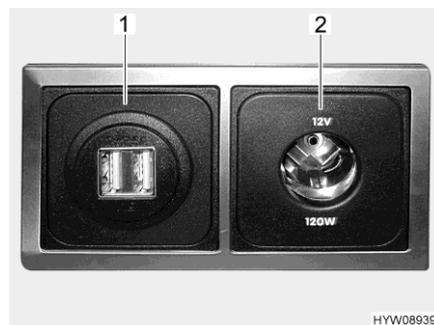

Fig. 88 Combination of USB and 12 V socket (example)
**USB socket** Batteries and appliances can be charged with a charging current of up to 2.5 A via the USB socket (Fig. 88,1).
**12 V socket** Appliances with a power consumption of up to 10 A (equivalent to a power of 120 W) can be connected to the 12 V socket (Fig. 88,2).